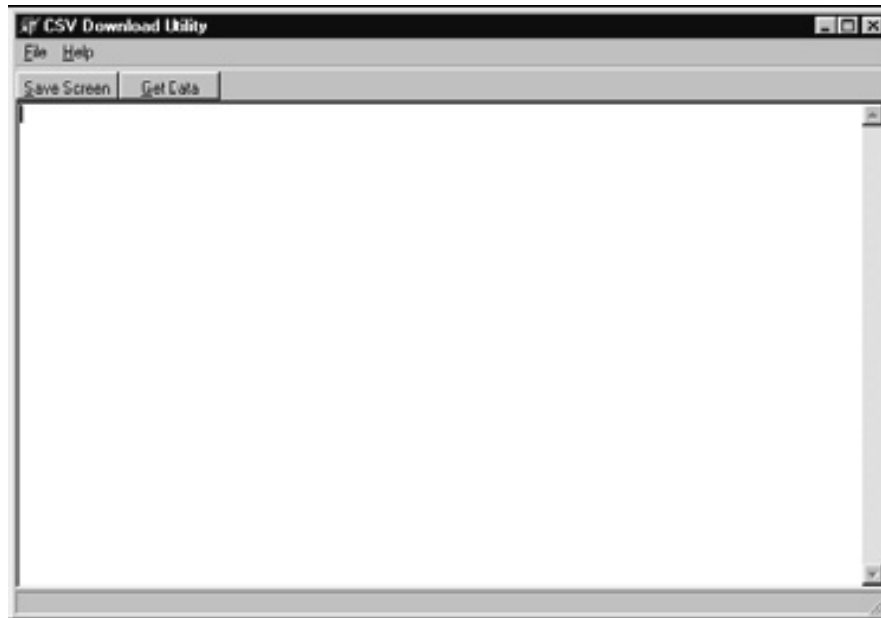

Figure 6 MET ONE HHP C-2 Utility (CSVDownloadUtility) window
5. To open the utility software, double-click the CSVDownloadUtility.exe file. The CSVDownloadUtility window is displayed (refer to Figure 6 on page 15).